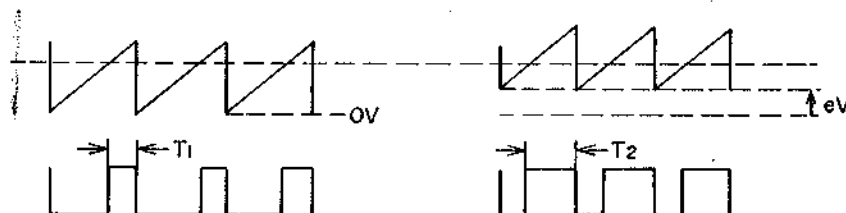

Fig. 14
The signal from the phase control circuit is added to IC4 ③ and mixed with the speed control signal. Actually the apparent time constant is changed by adding the DC voltage of phase error to the circuit of IC4 MM2. (Fig. 14)